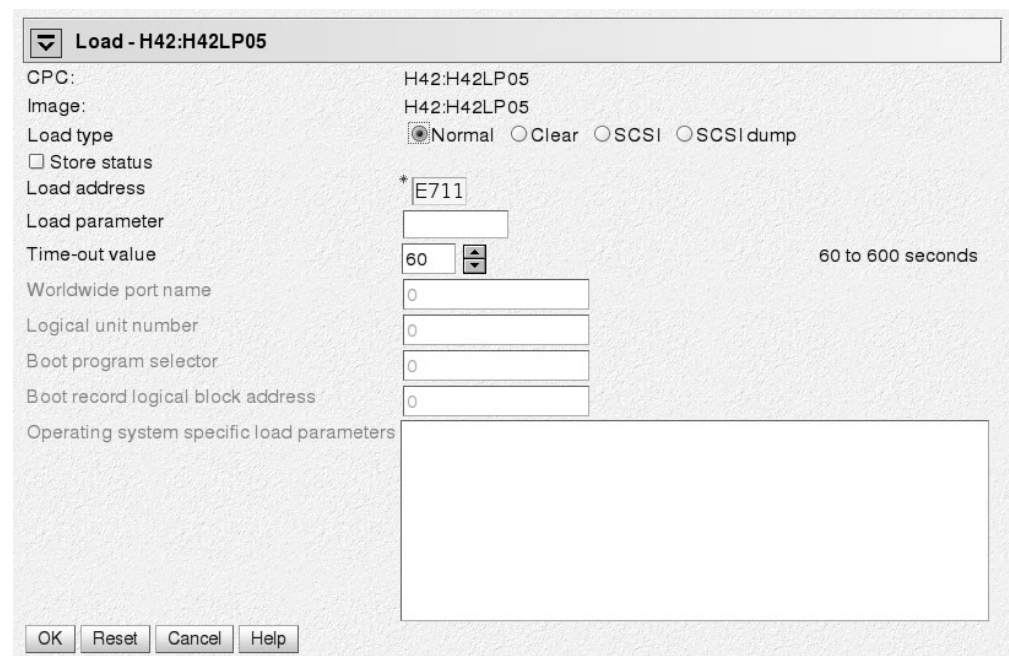

Figure 24. Load panel for booting from DASD
4. Select the load type **Normal** (see Figure 24).